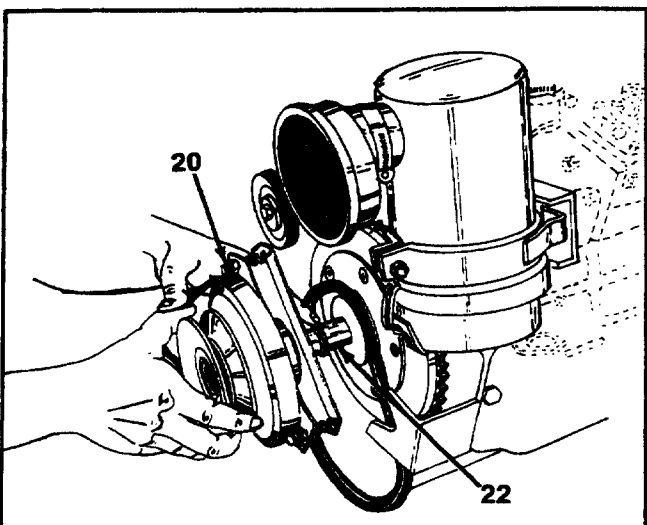

FIGURE 15.
14. Slide the P.T.O. clutch off to stub shaft. See figure 15.